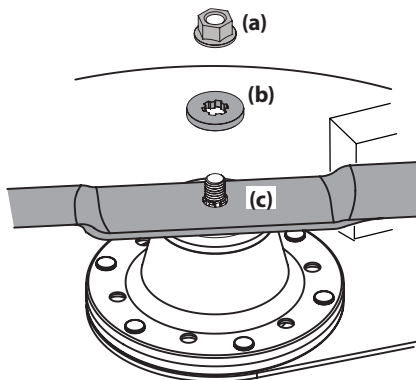

Figure 57
2. Remove the flange lock nut (a) and flat washer (b) from the spindle shaft and remove the blade (c). See Figure 57.